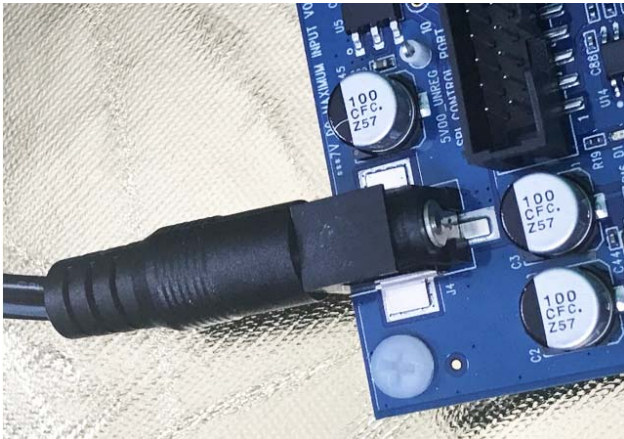

Figure 9. Connecting the Power Supply
2. Connect the female plug of the power supply to the J4 male connector on the EVAL-ADAU1452REVBZ board, as shown in Figure 9.